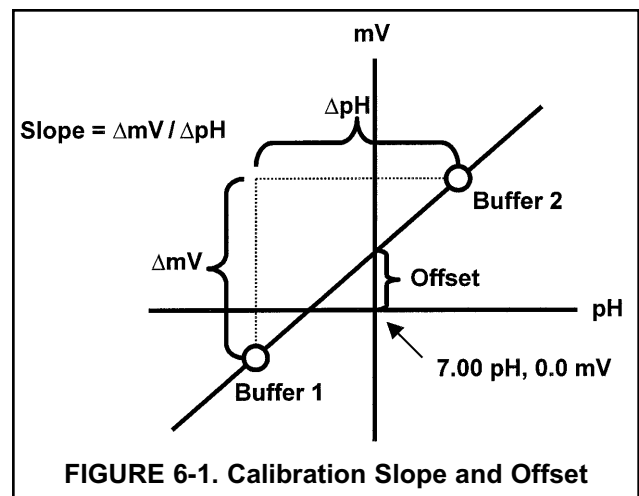

FIGURE 6-1. Calibration Slope and Offset
2. SLOPE AND OFFSET. Once the Solu Comp II successfully completes the calibration, it calculates and displays the calibration slope and offset. The slope is reported as the slope at 25°C. Figure 6-1 defines the terms.
2. **SLOPE AND OFFSET.** Once the Solu Comp II successfully completes the calibration, it calculates and displays the calibration slope and offset. The slope is reported as the slope at 25°C. Figure 6-1 defines the terms.